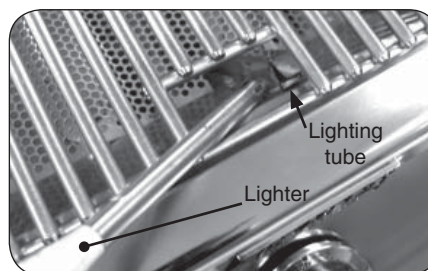

Fig. 21-2 - Manual lighting
2. Insert either a burning long-barrel butane lighter or a burning long-stem match through the cooking grid opening to the top of the lighting tube. (Fig. 21-2). For backburners, hold the flame against the surface of the backburner. For sideburners, hold the flame against the burner.
4. If the burner does not light, **immediately depress the knob and turn the valve to OFF**. **WAIT FIVE (5) MINUTES** before repeating steps 2 through 4 of the MANUAL LIGHTING instructions.